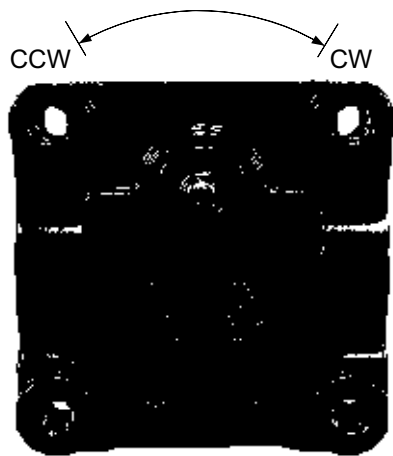

Figure 1. Shaft End View
2. Remove cover and set the function switch to enable the output to be increased by counterclockwise (CCW) or clockwise (CW) motion of the shaft. Refer to figures 1 and 2.